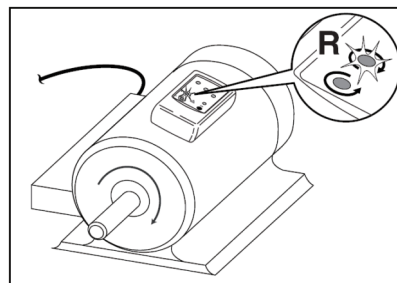

Figure 3. Motor Rotation
2. Position the Indicator on the motor so that it is parallel to the length of the motor shaft. The Indicator should be one inch or closer to the motor. See Figure 3.